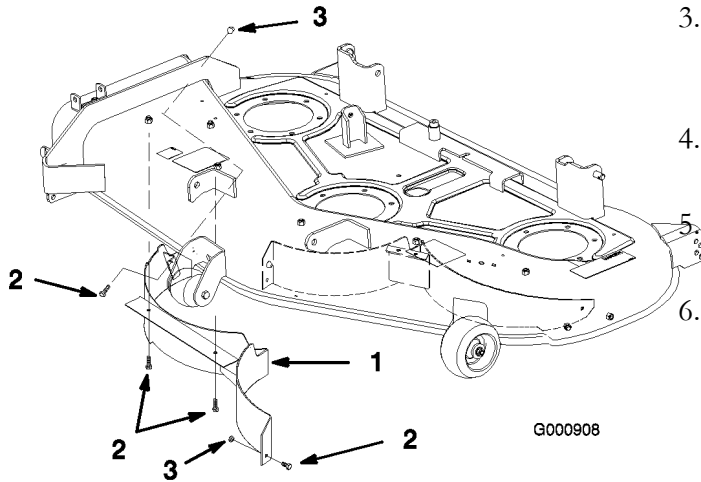

Figure 20
- Remove the lock nuts from the top and center of the right side baffle (Figure 20).
- Lower the baffle and slide it out of discharge opening to remove it (Figure 20).
- Install the bolts (5/16 x 5/8 inch) and locknuts (5/16 inch) removed in Step 3 in the open holes of the mower for safety (Figure 20).
3. Remove the bolts and nuts in the deck holes needed to secure the baffle to the deck (Figure 20).
4. Install the baffle by sliding it into the discharge opening (Figure 20).
5. Secure the baffle with the nuts and bolts (Figure 20) removed in Step 3.